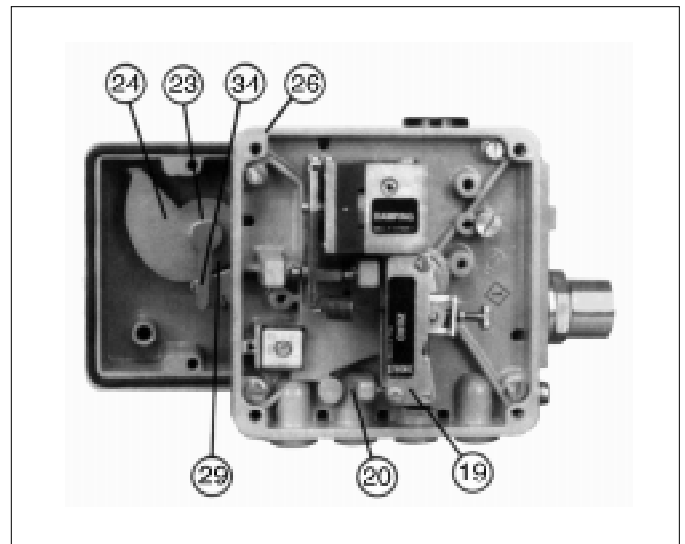

Figure 6
14. Fasten the positioner unit to the baseplate (26) inserting two cap screws (11) with lock washers (12) thru the side of baseplate (26).
15. Remove the positioner cover (WC). Remove plastic plug (33) from the upper edge of baseplate (26), allowing access to the socket cap screw (21).
16. Press the stroke factor lever (19) (See Figure 6) of the positioner's internals against the travel stop pin (20) and hold firmly in place. Using the #5 Allen wrench provided, securely tighten socket cap screw (21) to the main shaft (17) while holding the stroke factor lever (19). Replace plastic plug (33).
17. Install adapter/gauge block (AB) with four O-rings (OR) to main positioner unit, with the connections oriented to the rear, and the gauges (G2 & G3) facing the front. A clear plastic lens (PL) covers the gauges
18. Install tubing fittings with acceptable thread sealant and tubing from the unit's 1/4" NPT (female) "OUTPUT 1" port of the adapter/gauge block (AB) up to the connection port of the actuator casing. **NOTE - Thread Sealants:** *If TFE tape is used, make sure that small pieces of tape will not be "pinched off" and enter the pneumatic internals. (Liquid thread sealants are not recommended.)*
19. Place temporary fittings and tubing so that the positioner is able to be supplied with a 20-44 psig air supply to the "SUPPLY AIR" port of the adapter/gauge block (AB). Supply pressure depends upon actuator bench setting; see Table 1.